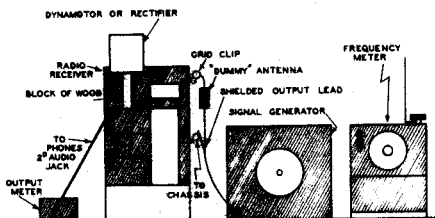

Fig. 5.—Set up of test equipment for aligning, using output meter. Frequency Meter SCR-211-(*) is used to check accuracy of calibration of signal generator.
1. Clip the dummy antenna from the signal generator (see fig. 5) to the grid cap of the 1st detector tube without removing the clip now on it.